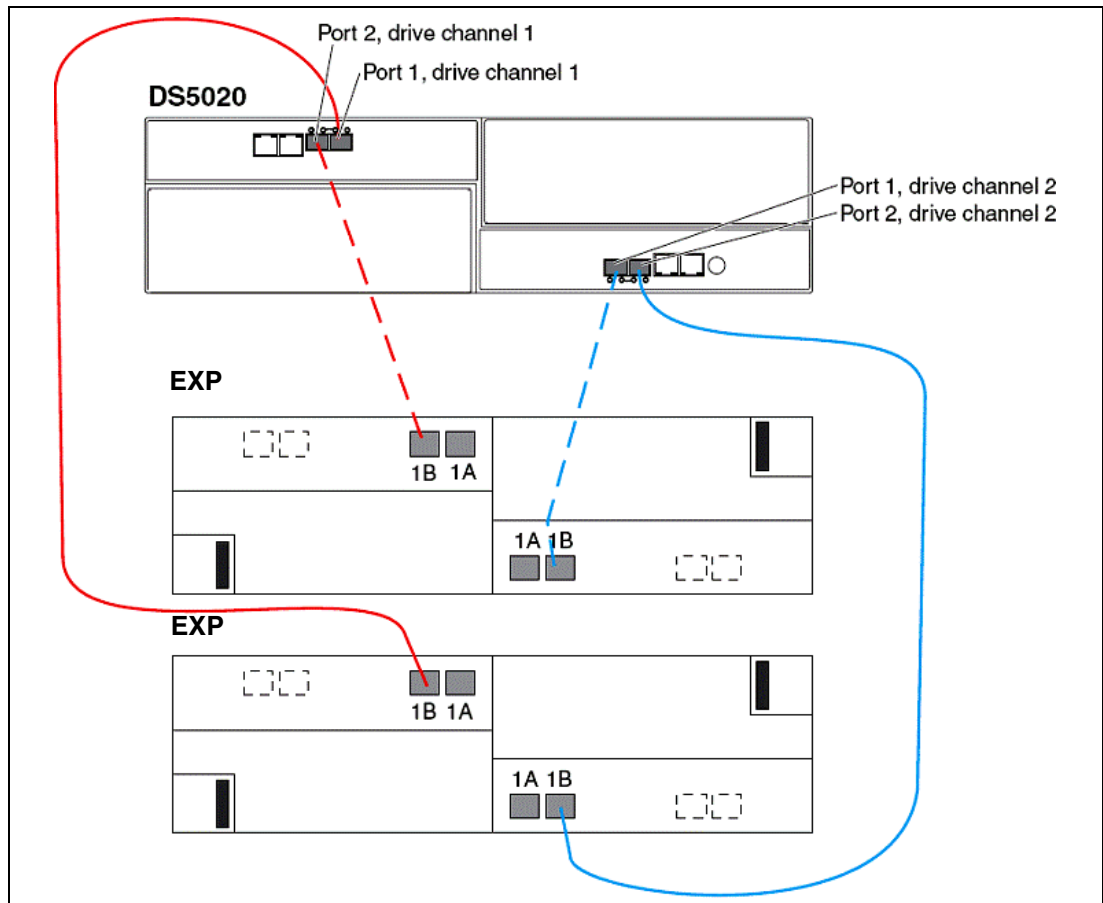

Figure 3-65 DS5020 drive cabling with two EXPs
- If you attach a second expansion unit, connect it by using the second port on the controller (controller A port 1 and controller B port 2), as shown in Figure 3-65.